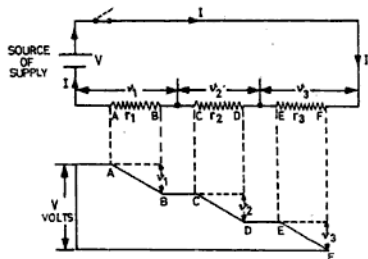

Fig. 3.9 Fall in potential across each resistance
**Series Combination of Resistance** If two or more resistances are connected in such a way that there is only one path for the current to flow, it is known as the series combination of resistances. In a series combination, resistances are connected end-to-end, and the beginning of the first and the end of the last are taken as two supply terminals as shown in Fig. 3.9.
**Calculation of Total Resistance in Series Combination** Consider the three resistances,  $r_1, r_2, r_3$  connected in series shown in Fig. 3.9. Let the potential difference across all of them be  $V$  which causes the same current  $I$  amperes to flow in each resistance. Now the potential difference across each of them will be different. Let the voltage drops across each resistance be  $v_1, v_2,$  and  $v_3$  V respectively, so that the applied potential difference will be the sum of all the voltage drops, i.e.